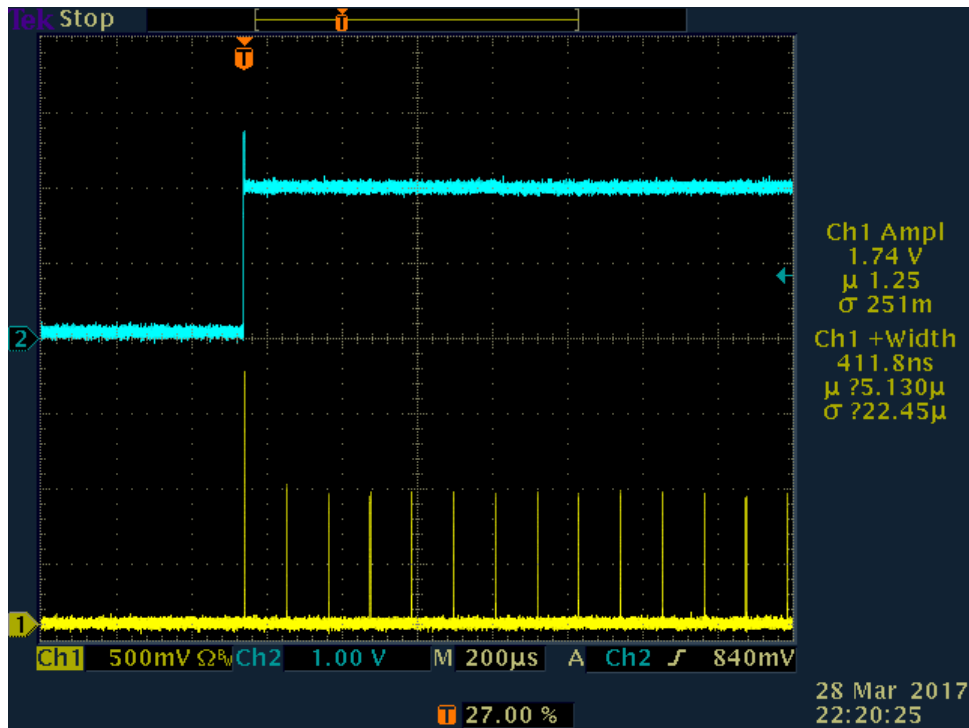
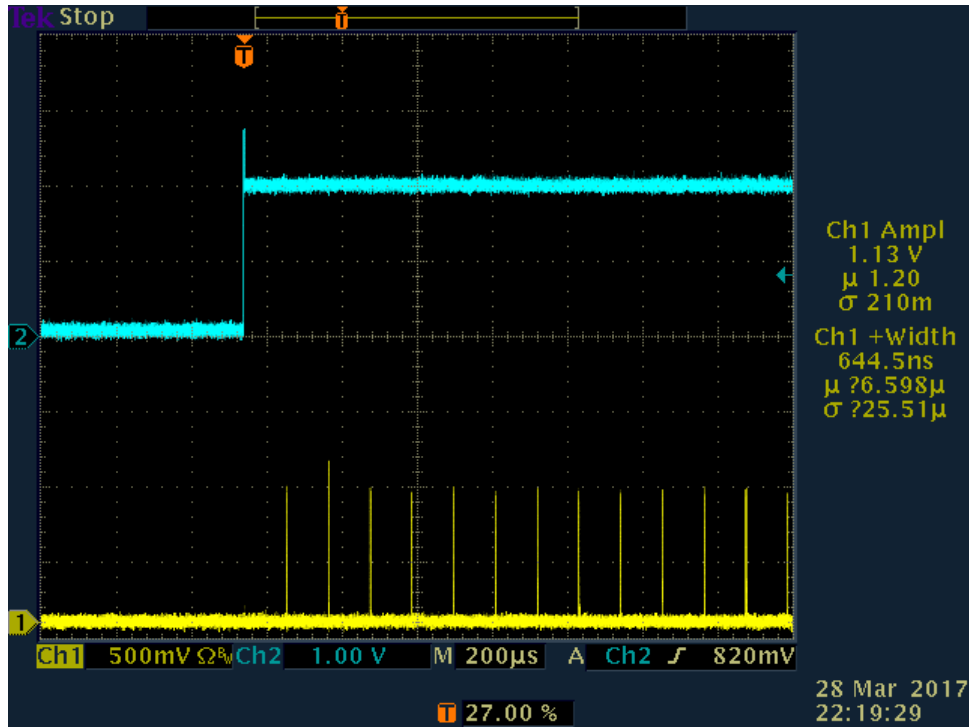

Figure 2: Example of a Bad FPS (Giant First Pulse)
Figure 3: Example of a Good FPS
8. Look at pulses on the oscilloscope, and adjust the eDrive FPS starting power and FPS window length settings until the first pulse is suppressed and is similar to the second pulse. Without FPS there is typically a giant first pulse as shown in Figure 2. Good FPS is shown in Figure 3.